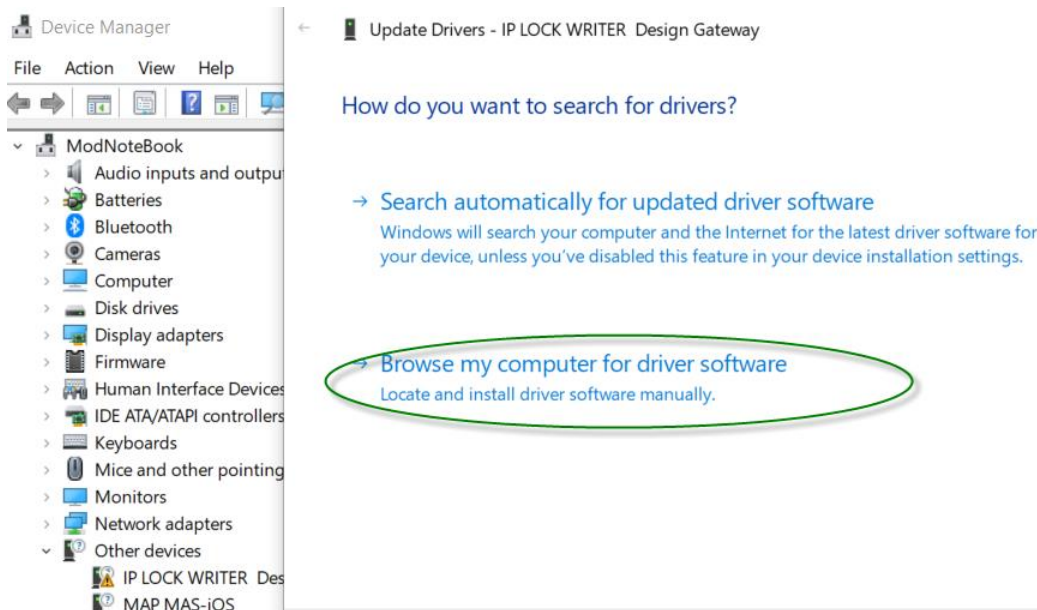

Figure 7-2 Select option “Browse my computer for drivers software”
2. Select “Browse my computer for driver software.” (Figure 7-2).